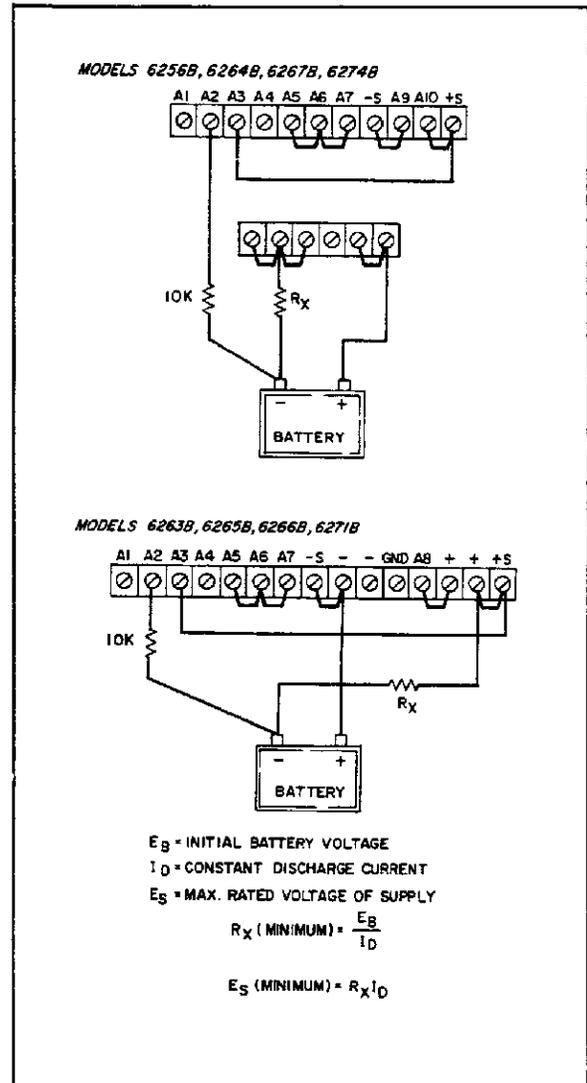

Figure 3-15. Battery Discharging
**3-84** These power supplies are also useful when batteries must be discharged at a constant current in order to test them. Connecting a supply as shown in Figure 3-15 and following the instructions below makes an unattended constant-current discharge possible by automatically shutting off the output of the supply when the battery voltage reaches zero.
**3-85** The supply operates in the constant-current mode, delivering the current set by the current control. This constant current flowing through dropping resistor RX produces a constant voltage across the resistor. Initially, the battery voltage is high and the supply's output voltage is low, but as the battery voltage decreases during discharge, the supply voltage increases. When the battery voltage reaches zero, the supply senses this through the connection to its (A2) terminal and reduces the output current to zero. As shown in Figure 3-15, RX must be selected so that its IR drop is less than the maximum rated output voltage of the supply, but greater than the initial battery voltage.
- b. Connect terminal (A3) to (+S) and leave all other jumpers connected as for normal operation as shown in Figure 3-15.